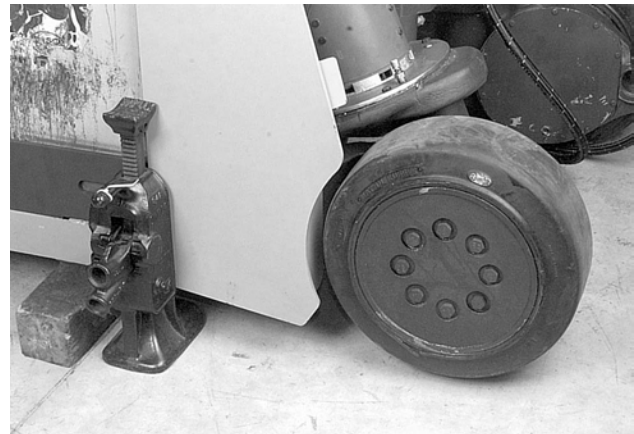

Figure 2-4: Jacking Drive Wheel
5. Place the jack under the designated jacking points. See Figures 2-4 and 2-5.
6. To jack the drive wheel: Place the jack in the designated jacking position. See Figure 2-4. Jack the truck up just high enough to raise the drive wheel off the floor. Place a block under the frame as shown.